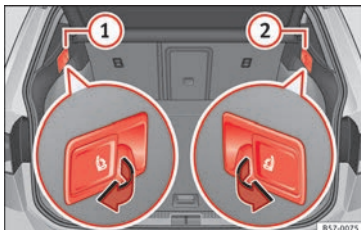

Fig. 144 In the luggage compartment: levers for remote release of the left part (1) and right part (2) of the rear seat backrest.
- Pull the remote release lever of the left part » Fig. 144 (1) or right part (2) of the backrest in the direction of the arrow. The released part of the rear seat backrest is folded automatically down and forwards.